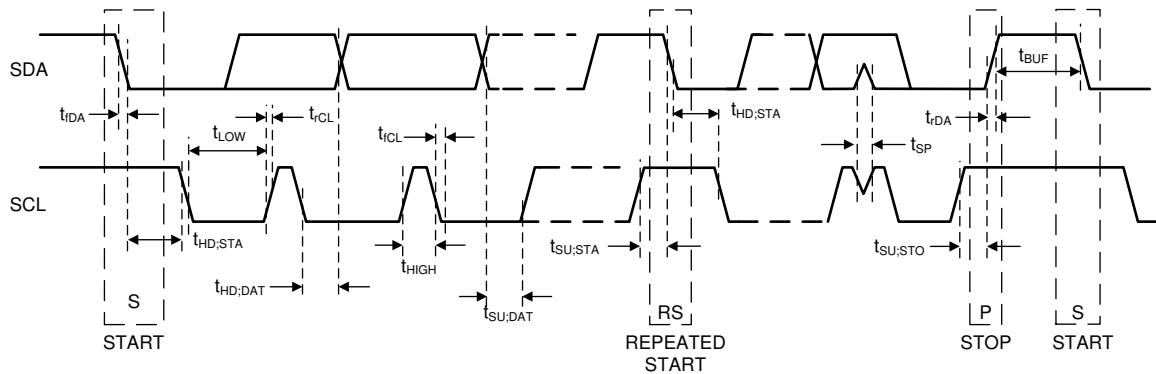

图 6-1. I²C Timing
(1) See Figure 6-1 for timing diagram.
(2) C_b refers to the capacitance of one bus line. C_b is expressed in pF units.